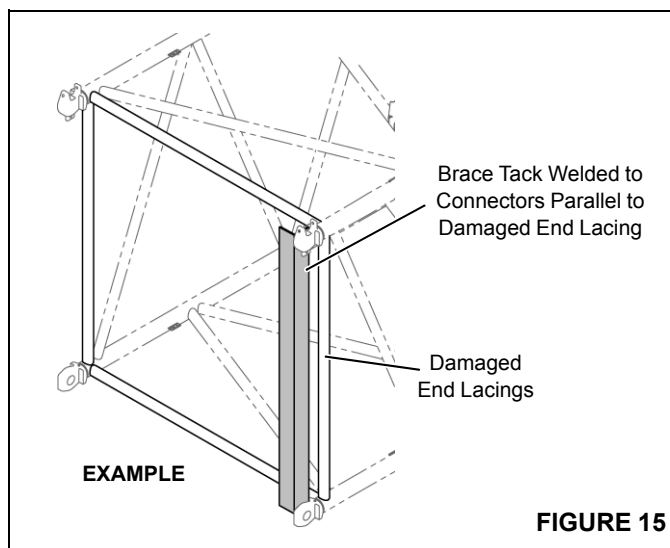

FIGURE 15
3. If another lattice section is not available, tack weld a temporary brace to the connectors parallel to the damaged lacing (see Figure 15).